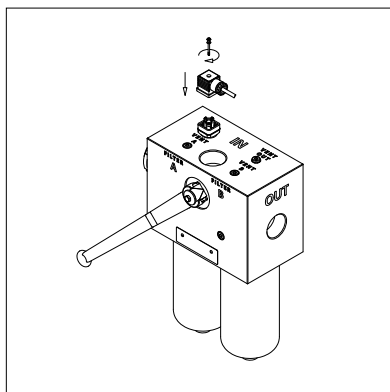

fig. 22
- (Fig. 22) Insert the connector by fastening the central screw (only for electrical indicators)